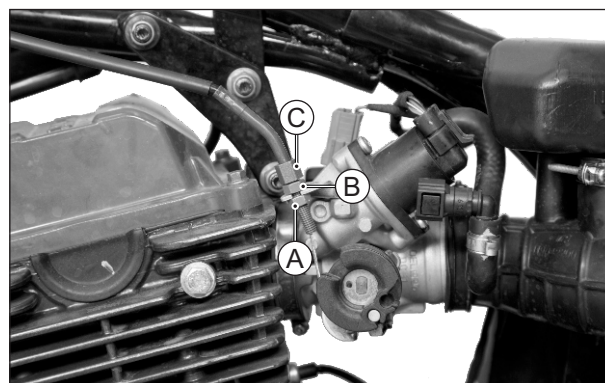

Fig. 2.73
- If the measured free play is more or less, loosen the lock nut (A) and turn the adjuster nut (B) 'in' or 'out' until the specified play is obtained. And then tighten the lock nut (A), while holding the cable adjuster (C). (Fig. 2.73)